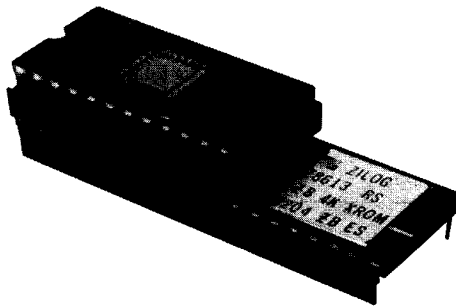

Figure 11. The Z8613 Microcomputer Protopack Emulator
The Z8613 Protopack (R) is used for prototype development and preproduction of mask-programmed applications. The Protopack is a ROMless version of the standard Z8611, housed in a pin-compatible 40-pin package (Figure 11).